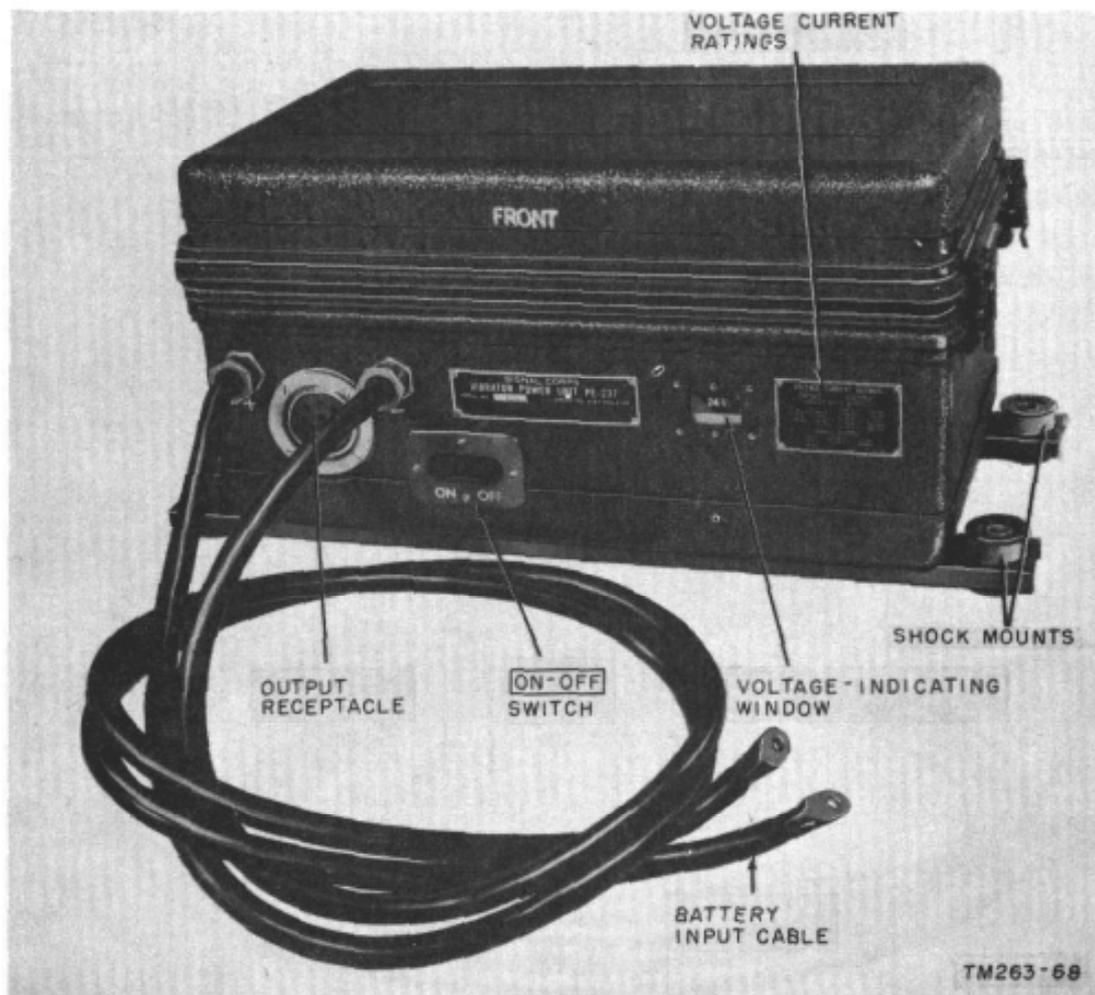

Figure 10. Vibrator Power Supply.
b. **FREQ. CONTROL** knob (I) and **ANTENNA TUNING** knob (C) are provided with locks to keep the knobs in place when set for operation. Two charts are provided on the front panel. One has the calibration settings of control (I) already marked. The other one, the **CRYSTALS** chart, is marked (in pencil) with the six operating frequencies used during crystal operation.
11. Description of Vibrator Power Supply PE-237 (fig. 10)